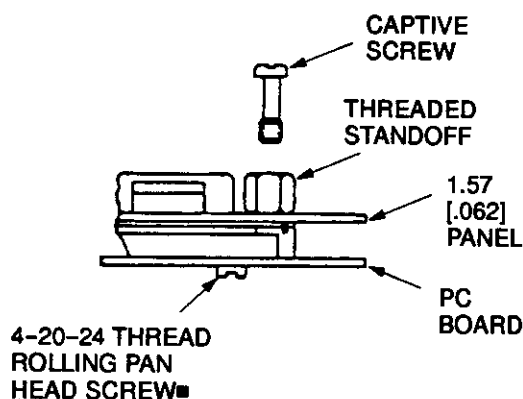

Figure 10
C. Rear-Panel-Mount Screw-Lock Kit (Figure 10)